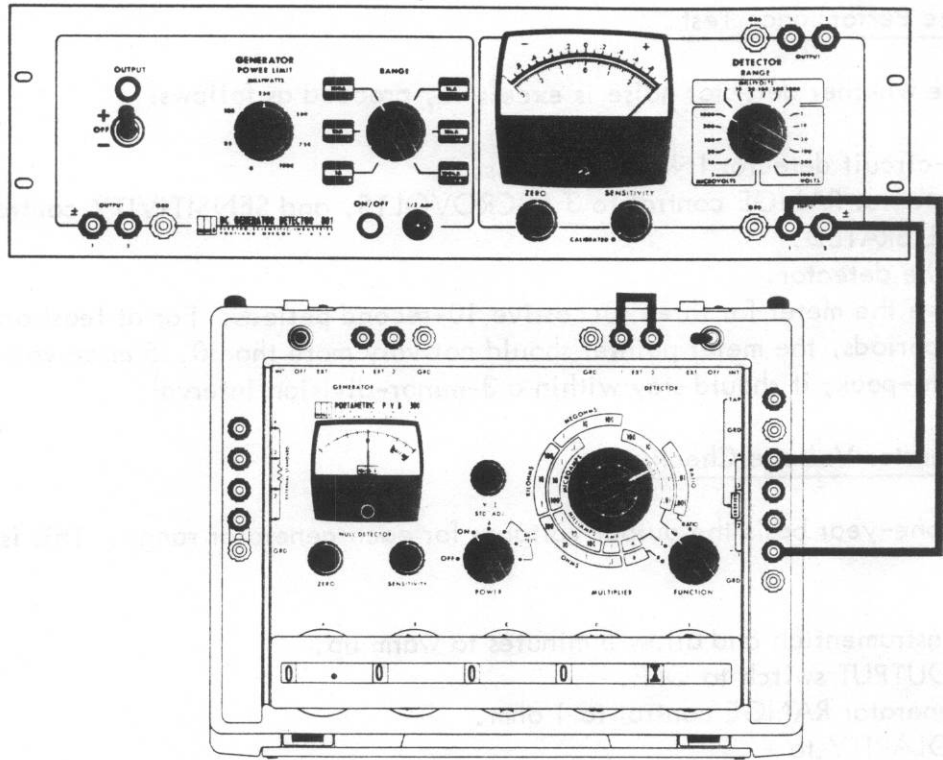

Figure 4.1a Detector Accuracy Test
- a) Connect test setup illustrated in Figure 4.1a and set potentiometric voltmeter to operate as a voltage source.
- a) Connect test setup illustrated in Figure 4.1a.